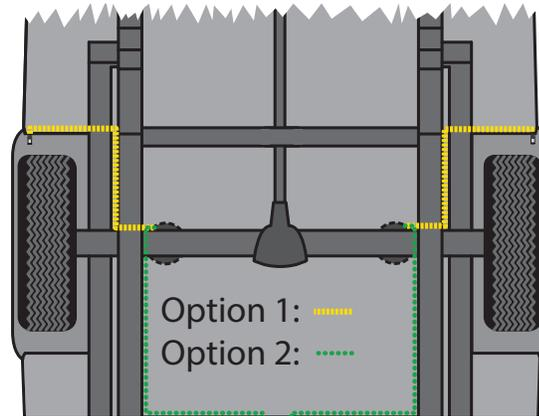

fig. E.3
7. Route the air line along the frame to the fitting on the air spring (Fig. E.3). Keep AT LEAST 6" of clearance between the air line and the exhaust system. Avoid sharp bends and edges. Use plastic tie straps to secure the air line to fixed points along the chassis. Be sure that the tie straps are tight, but do not pinch the air line. Leave at least 2" of slack to allow for any movement that might pull on the air line.